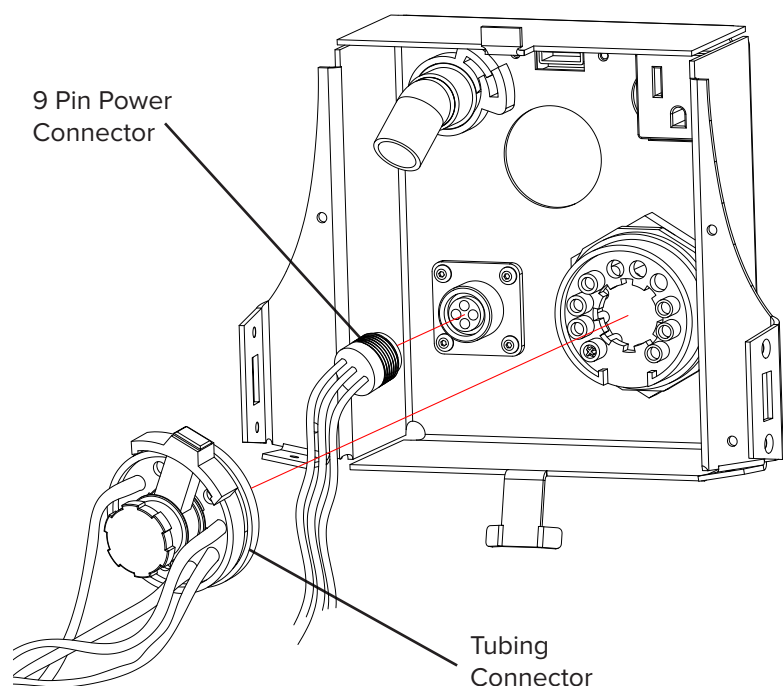

Fig 10.2
1. Plug in 9 Pin Power Connector and Tubing Connector as shown in Fig 10.2.